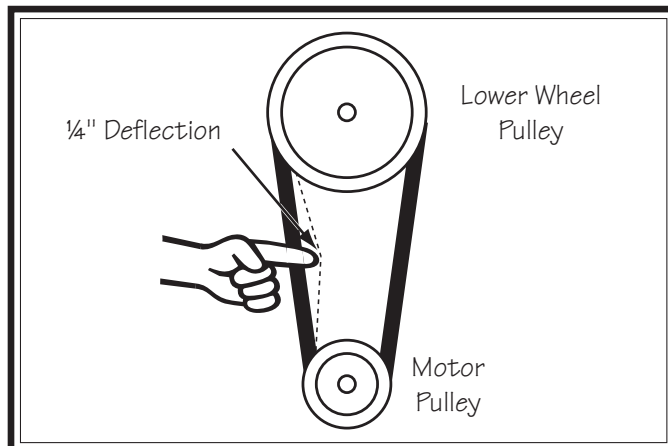

Figure 146. Checking belt tension.
5. Press center of belt to check tension. Belt is correctly tensioned when there is approximately 1/4" deflection when it is pushed with moderate pressure, as shown in **Figure 146**.